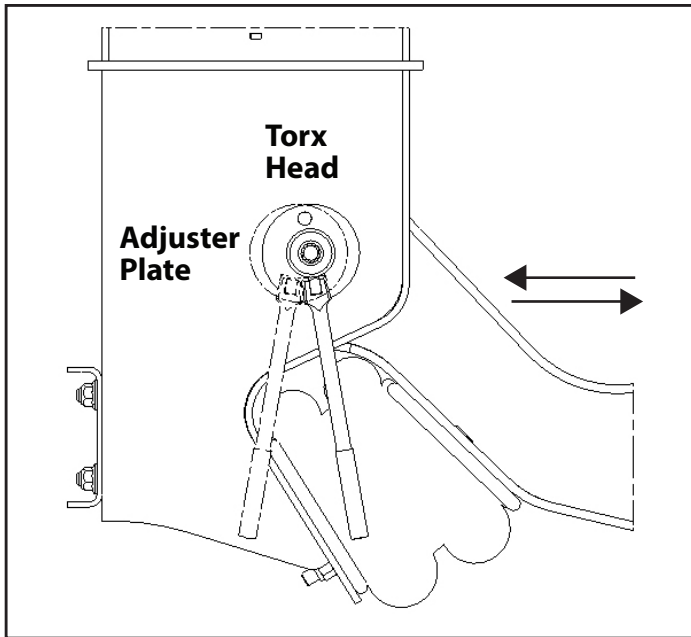

Figure 10.
2. Locate the adjuster plate at the pivot connection. Insert a 1/2"-shank breaker bar into the square hole of the adjuster plate. Push on the breaker bar to move the beam forward or backward until the axle reaches the alignment measurements (Figure 10).